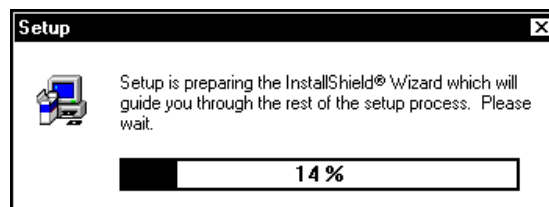

Figure 1.3
6. The following dialogue box, **Figure 1.3** will appear to help the user with the installation of the Masterlink Software.